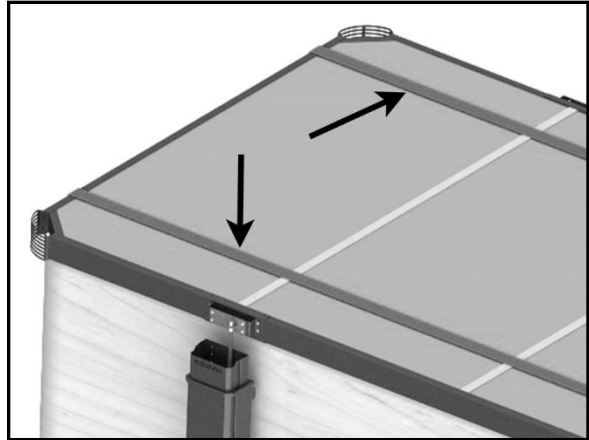
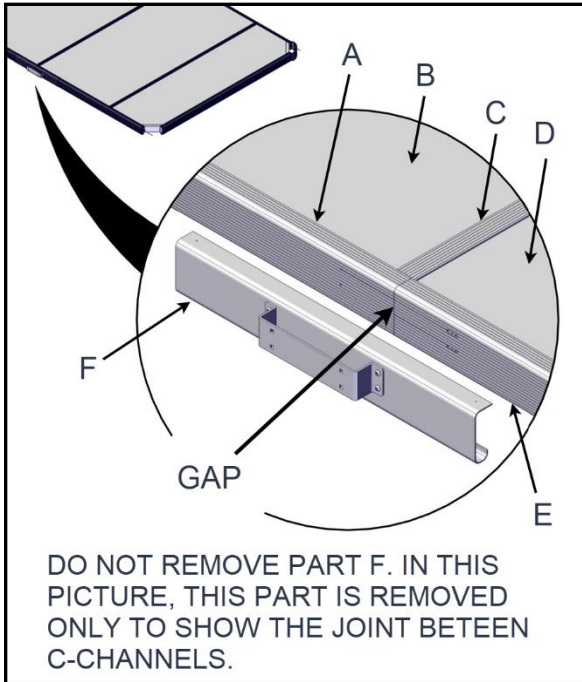

FIGURE 54: TIGHTENING WITH STRAPS
FIGURE 55: GAP BETWEEN C-CHANNELS
1. Use the ratchet straps to compress the entire cover assembly (*Figure 54*) until you are left with a gap between the short C-channel and the middle C-channel between 1/16" and 3/16" see *Figure 55*.